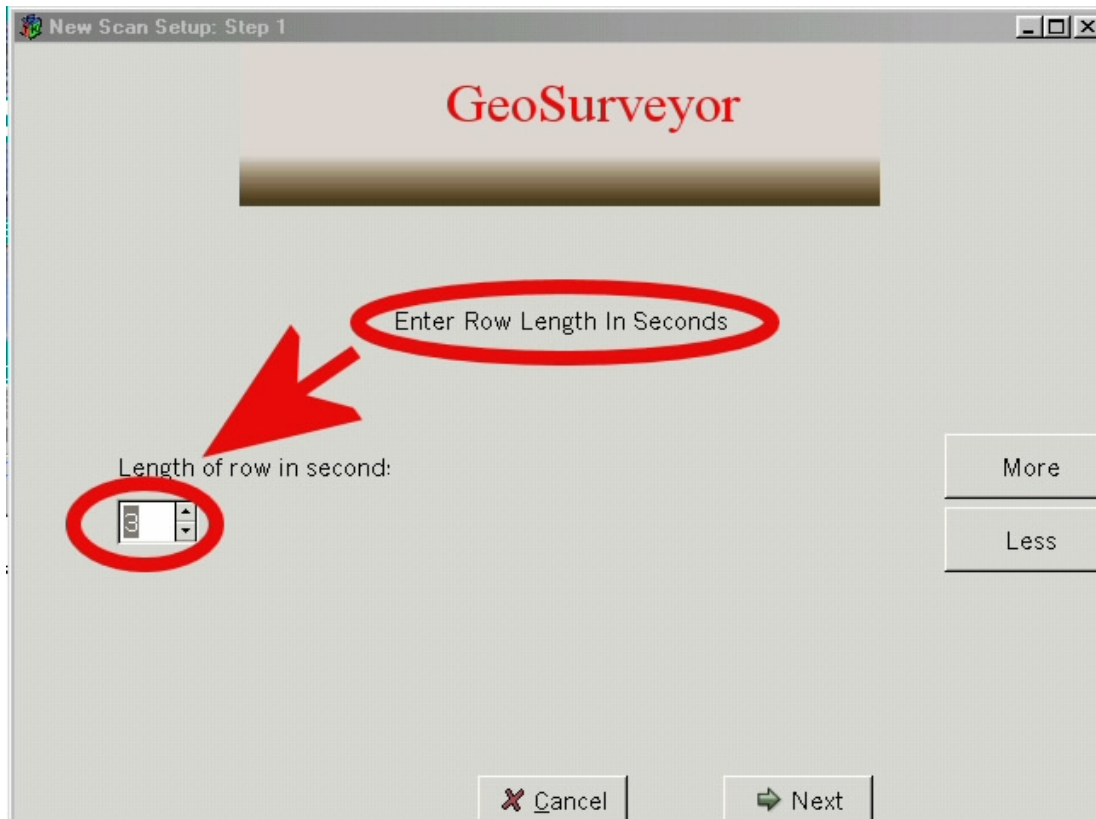

Figure 4.1
9. In the next dialog box are your options, select the amount of time, in seconds, that it will take you to cover one survey line (Figure 4.1). You can either click on the up and down arrows located next to the actual second count, for instance five seconds, or you can click on the “More” or “Less” buttons on the right hand side of the dialog box.
9. In the next dialog box are your options, select the amount of time, in seconds, that it will take you to cover one survey line (Figure 4.1). You can either click on the up and down arrows located next to the actual second count, or you can click on the “More” or “Less” buttons on the right hand side of the dialog box. Select a higher amount of seconds because you will only do one (1) survey line.